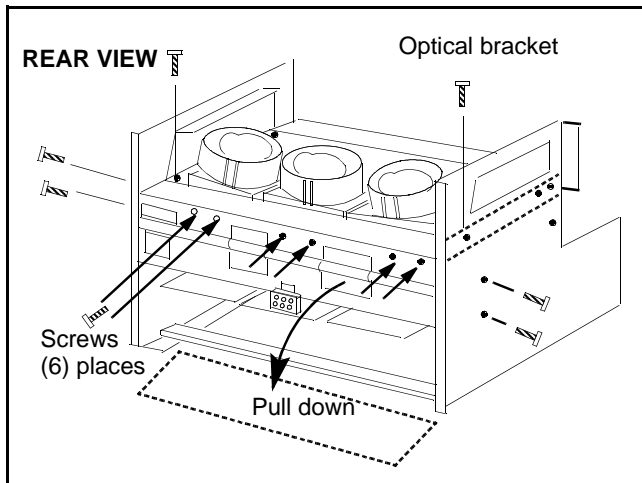
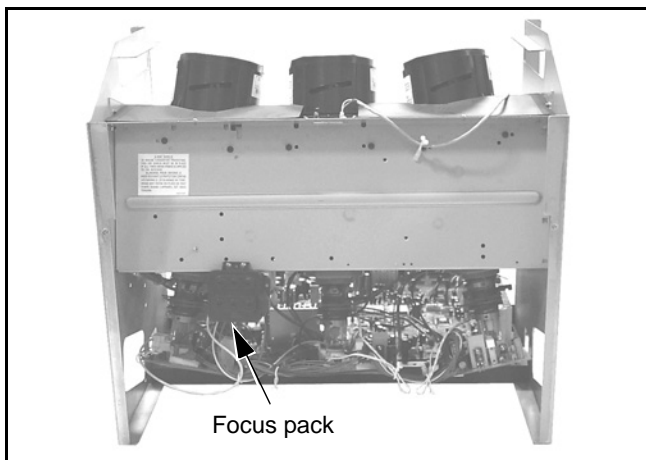

Figure 17. CRT replacement
Figure 18. Light box front view
The chassis assembly shown in figure 18 includes all the electrical and optical (light box) components.
2. Remove the optical bracket metal cover (rear side) by removing (6) screws from back, (2) screws from top, and (2) screws from each side. See figure 17 & figure 18.